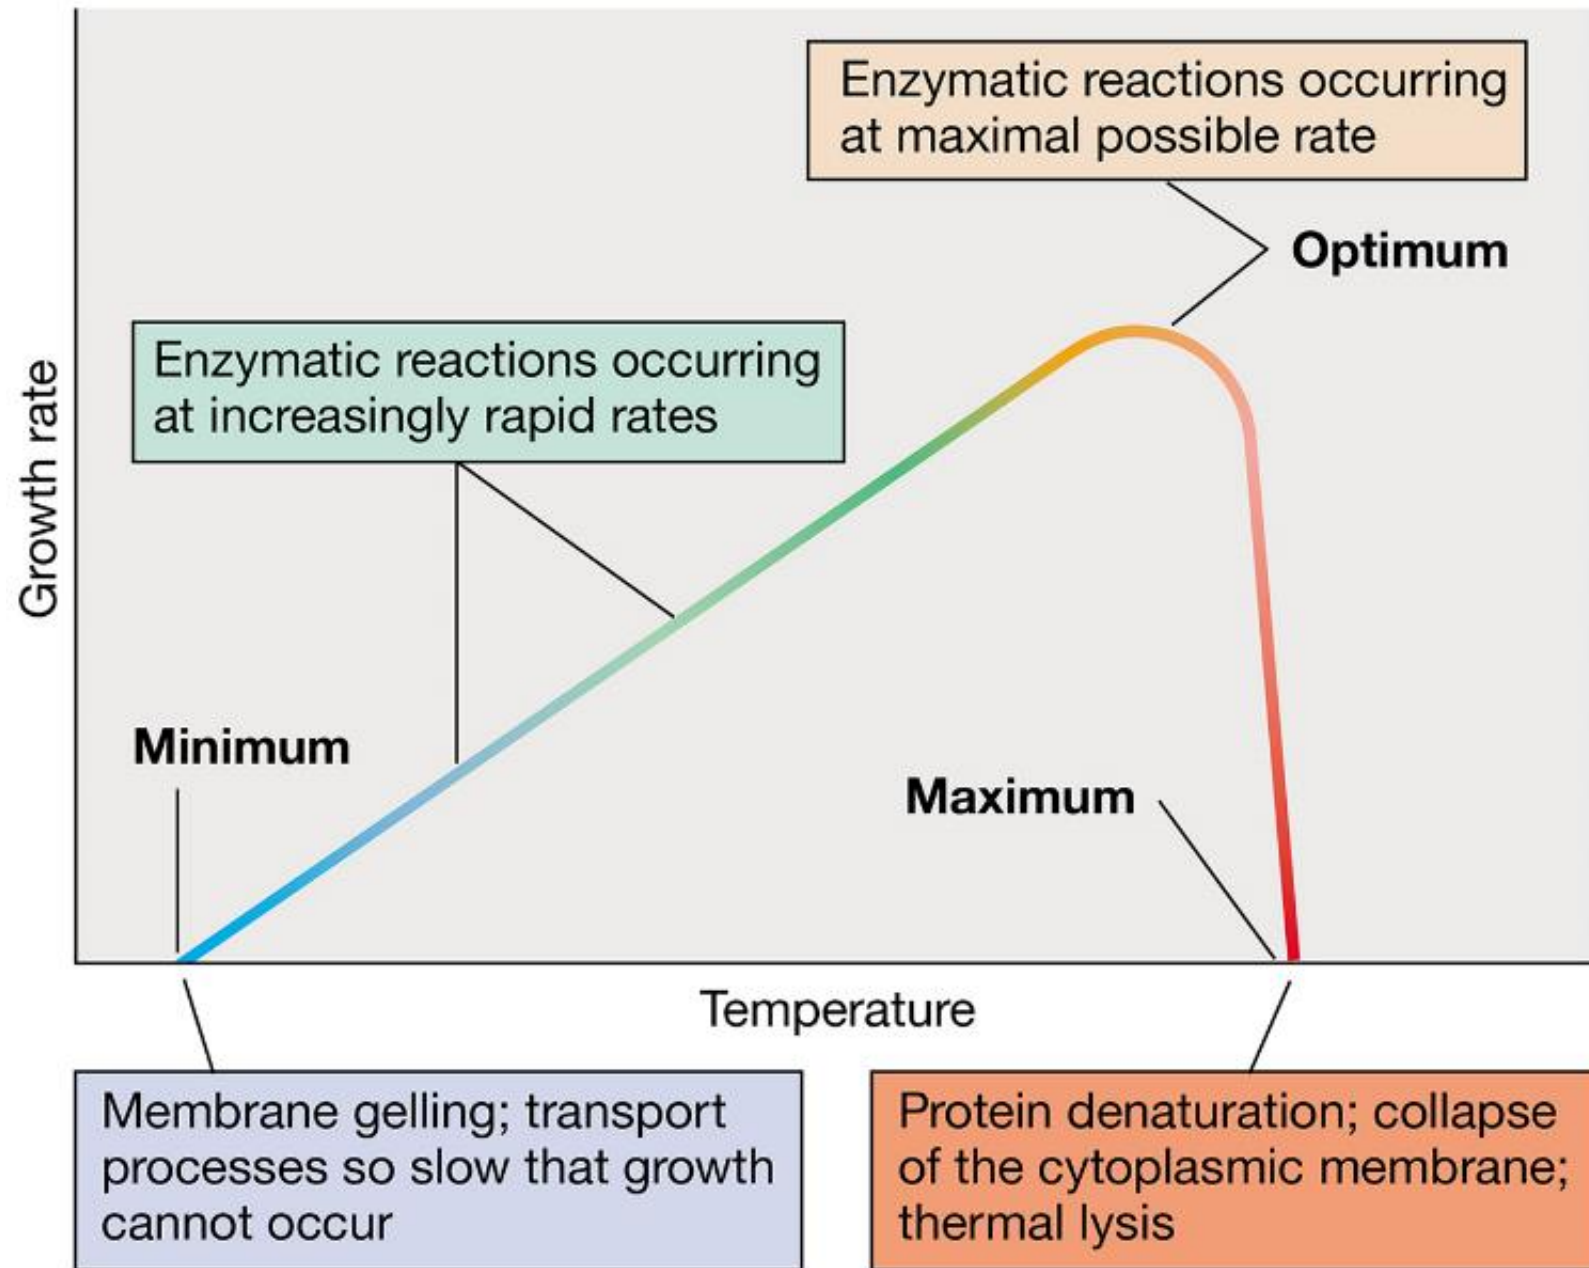

Figure 5.17
- Cardinal temperatures: the minimum, optimum, and maximum temperatures at which an organism grows (Figure 5.17)